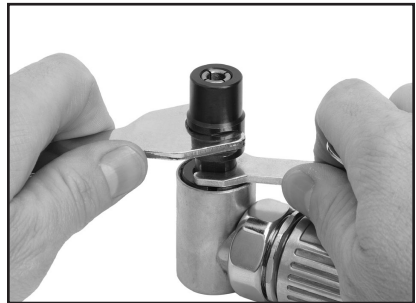

Figure 2. Loosening the collet.
2. Use the two included wrenches to loosen the collet nut, as shown in **Figure 2**.